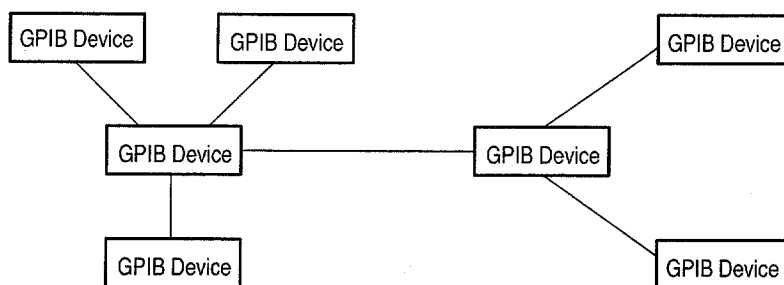

Figure 3–85: Typical GPIB Network Configuration
- Include only one cable path between devices on your network. (See Figure 3–85.) Do not create loop configurations.
The standard GPIB cable connects to a 24-pin GPIB connector located on the rear panel of the oscilloscope. The connector has a D-type shell and conforms to IEEE Std 488.1-1987. You can stack GPIB connectors on top of each other. (See Figure 3–86.)